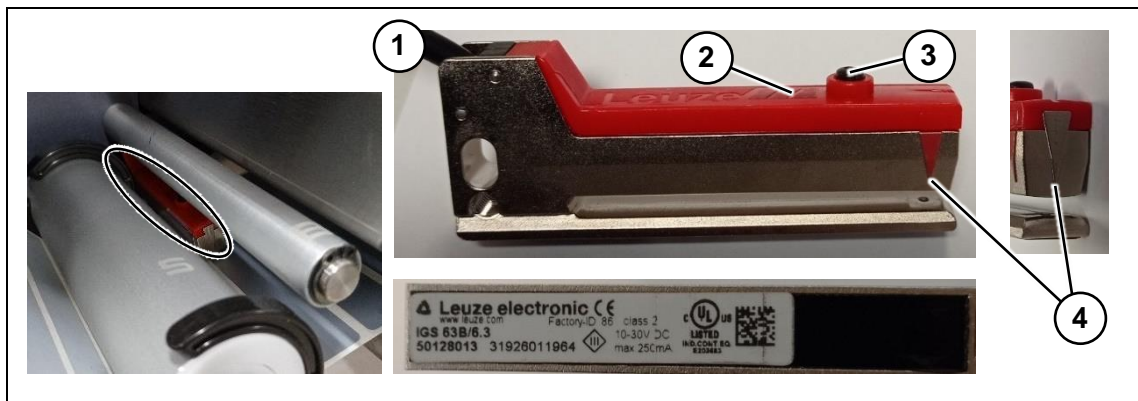

Figure 20 Optical fork light barrier IGS63B
Press the teach button (Figure 20, pos. 3) for 2 seconds.